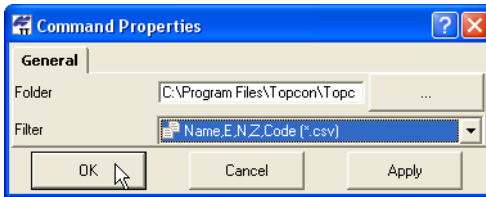

Figure 1-26. Apply Command Properties
2. On the *Command Properties* dialog box, click the **browse** button to select the default folder to import files to or export files from (Figure 1-26).
3. Click the **Filter** drop-down list to select the default import/export format (Figure 1-26).